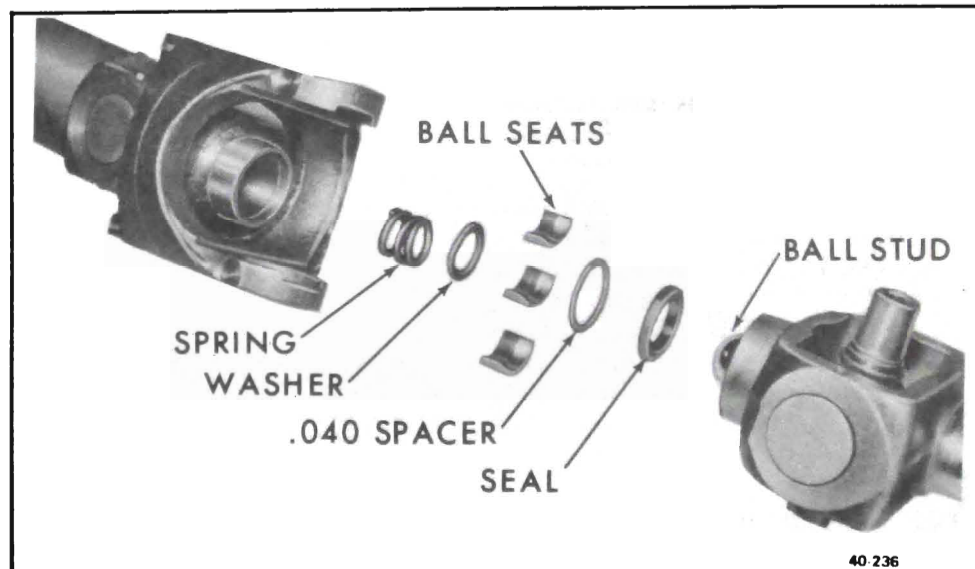

Figure 40-74 - Ball Stud Seat - Exploded View
2. With a screwdriver pry out the seal, remove .040 spacer, ball seats, washer and spring. See Figure 40-74.